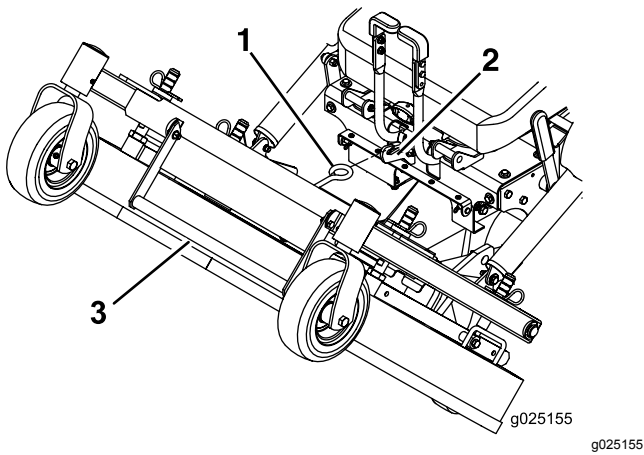

Figure 20
3. Using the deck-lift handle, lift the deck up and latch it in the Up position (Figure 20).
1. While firmly holding onto deck-lift handle, unhook the mower-deck latch from the machine and slowly lower the mower deck to the ground (Figure 20).